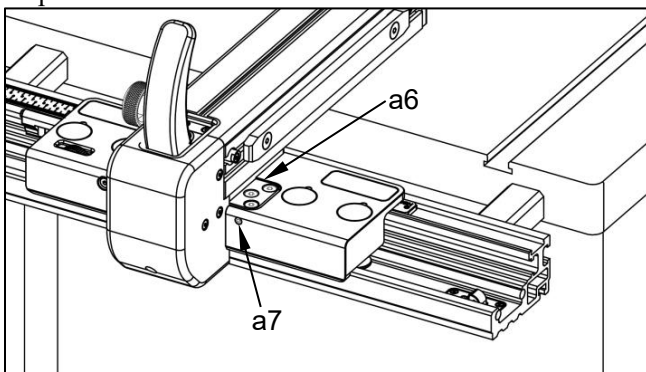

Fig. 24
- As shown in Fig. 24, pull up the Locking Lever, remove the three M6x20 screws (a6) on both sides, then loosen the two M6x8 set screws (a7) by two full turns. The Fence Body Assembly can now be detached.